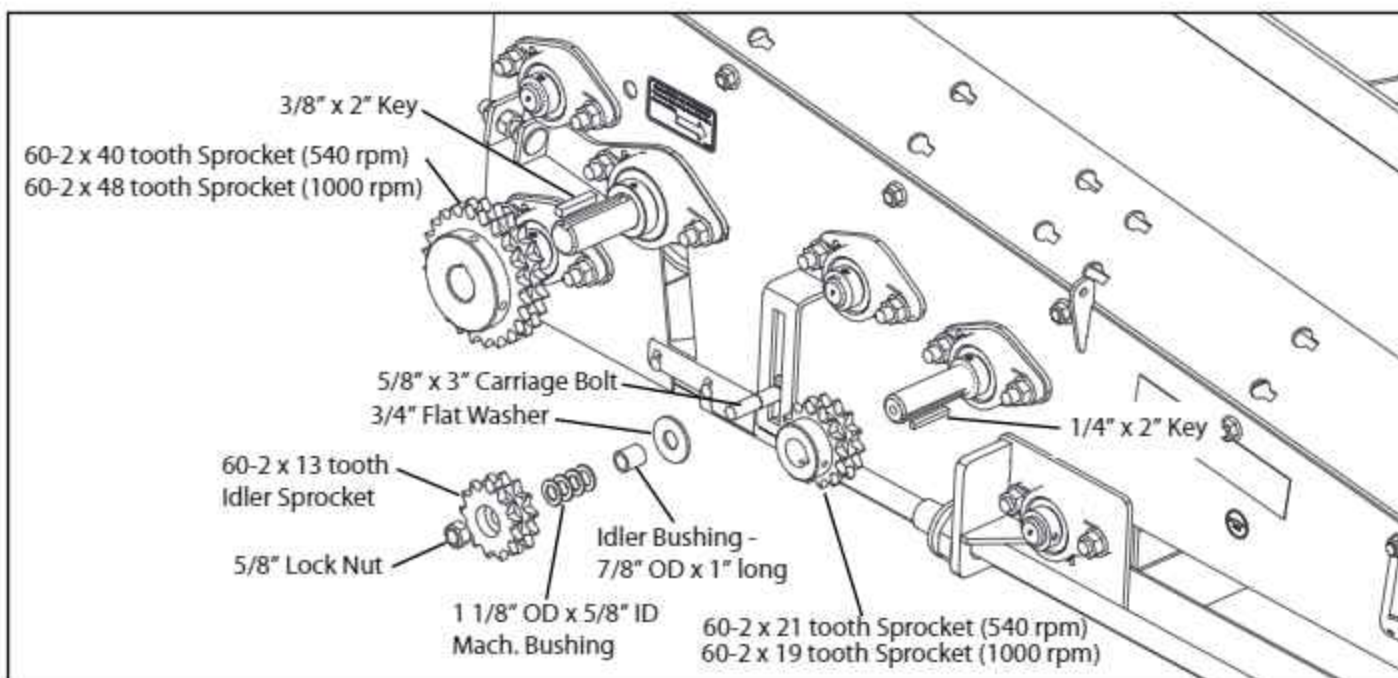

FIG. 3-62. S-Drive Sprocket Installation
30. Insert the 5/8" x 3" carriage bolt through the slot in the bracket welded to the side of the S-Drive, from the inside, as shown in Fig. 3-62.